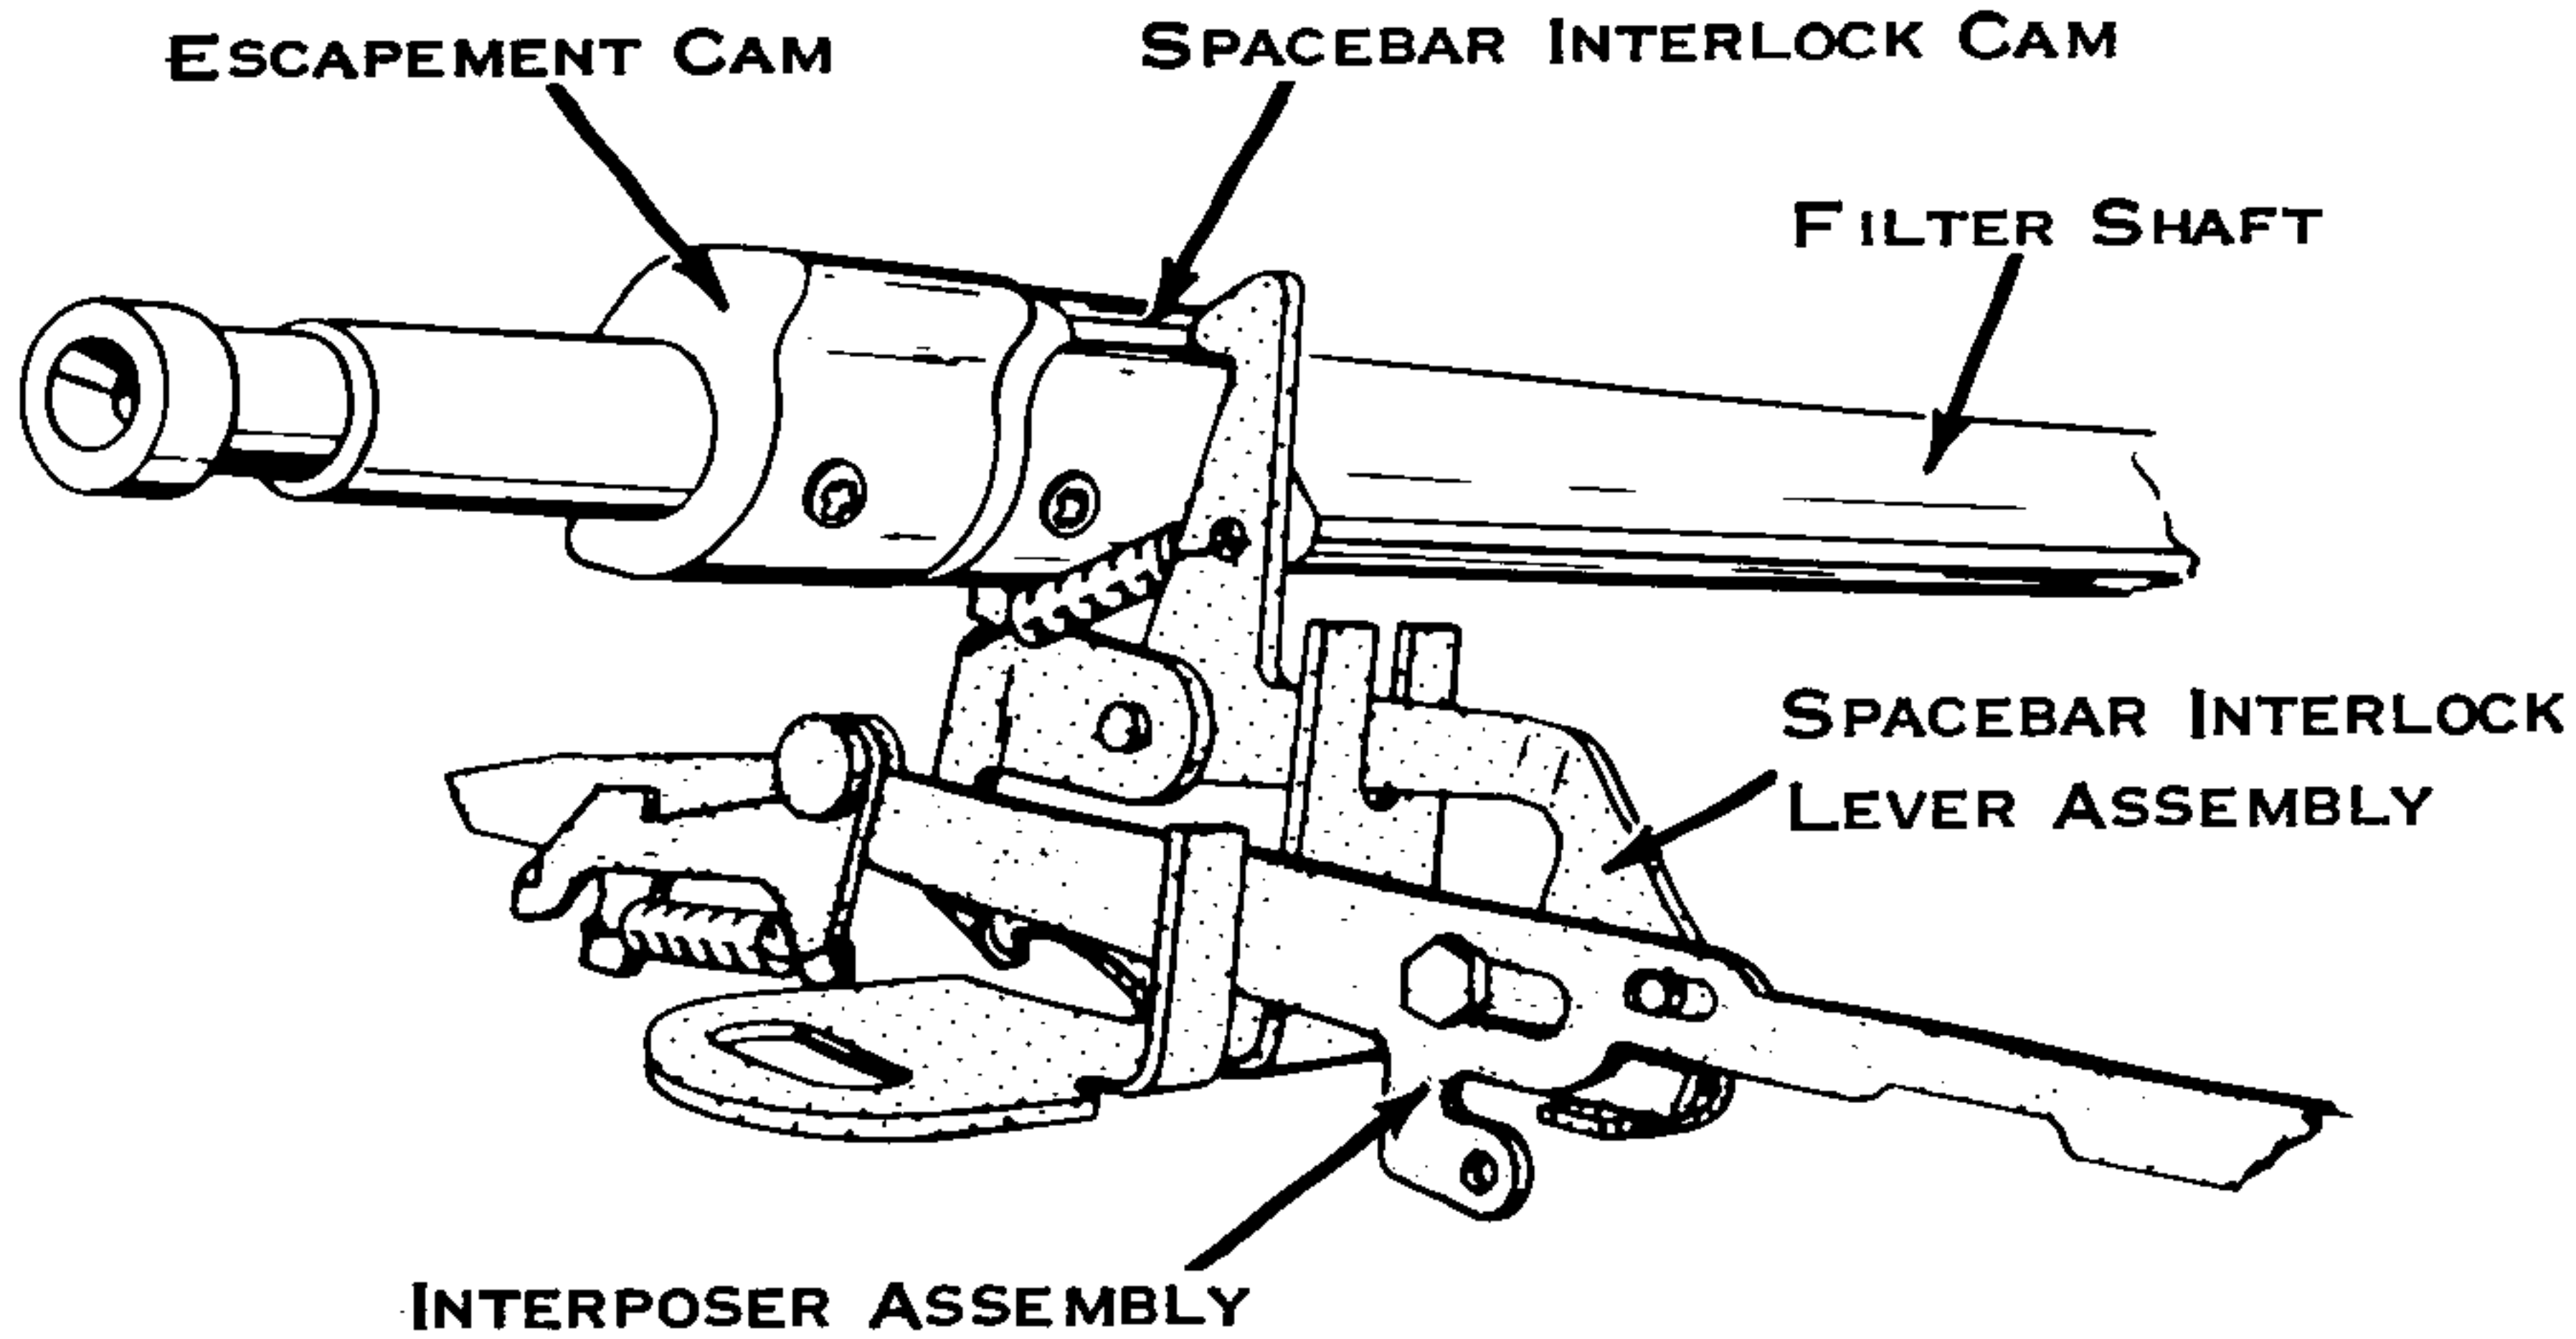

Figure 150. Interlock Cam (New)
a. Spacebar Interlock Cam - Position the cam (Fig. 150):
- (1) Left to Right - so that the cam is against the flute of the filter shaft and the set screw is toward the RH side of the machine.
- (2) Rotate the cam so that the tip of the spacebar interlock lever will rest on the high point of the cam when the filter shaft is at rest.